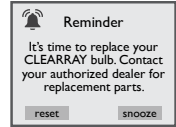

Figure 15.0c
22. **CLEARARRAY Replacement Reminder:** This message will appear when the CLEARARRAY bulb reminder time has expired (Figure 15.0c). The CLEARARRAY bulb must be replaced.